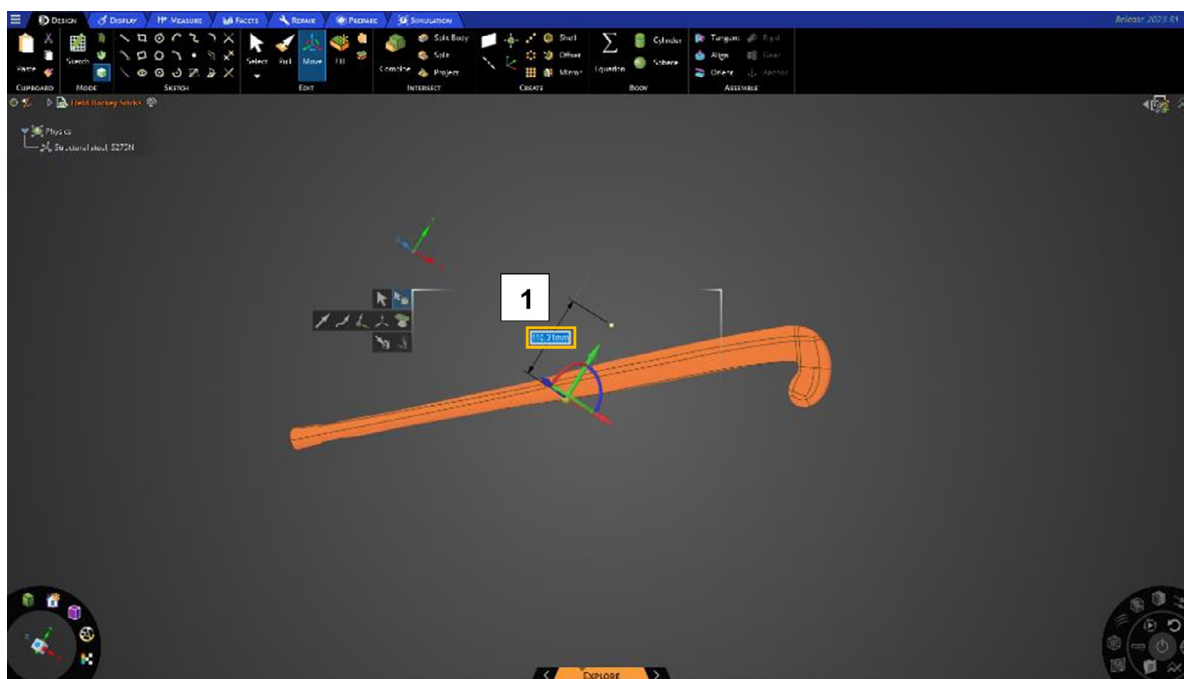

Figure 20: Displacing the converted field hockey stick CAD geometry.
The triad's green, red, and blue arrows represent the y-, x-, and z-axis, respectively. To move the geometry along an axis, select the corresponding arrow on the triad (Fig. 20) and drag it with your mouse. If you need to specify a precise displacement, enter the value in the dialog box shown in (Fig. 20 (1)).